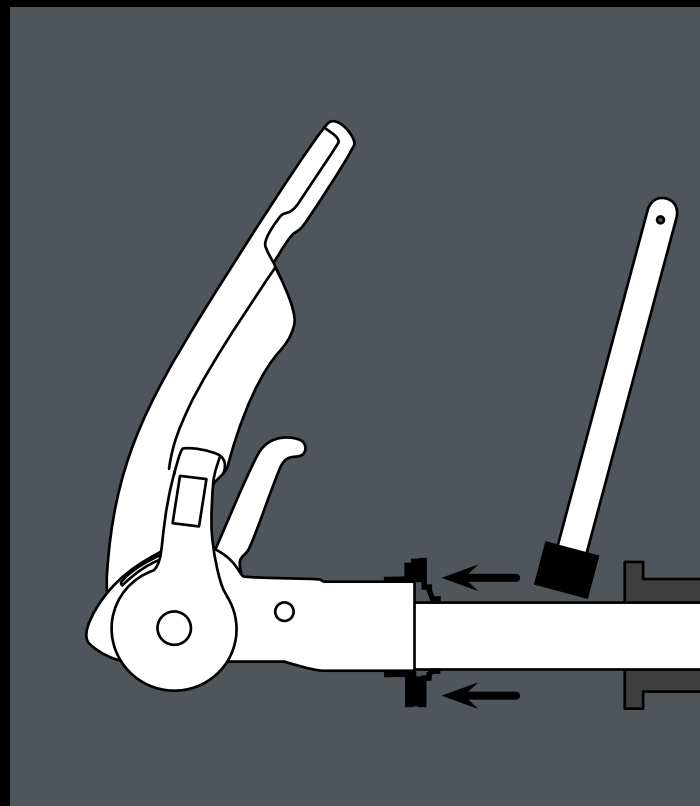

Fig 12 Remedial Action
- b. Lubricate the drawshaft sleeve via the grease nipples. In addition, push the gaiter forward and grease (DIN 51 825 KTA 3K) the exposed part of the shaft (Fig 12).